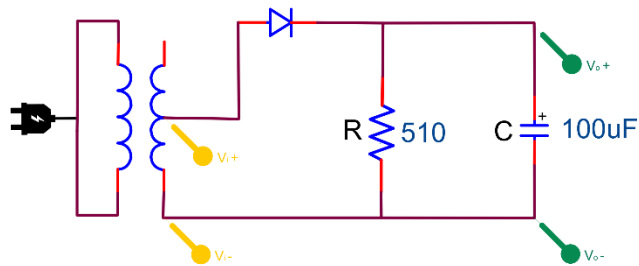

Figure 4.6
2. Construct Figure 4.6 , make sure that the polarity of the capacitor is correct. Use the oscilloscope to observe the output voltage and measure the percentage of ripple on this output.
- a. Figure 4.6.